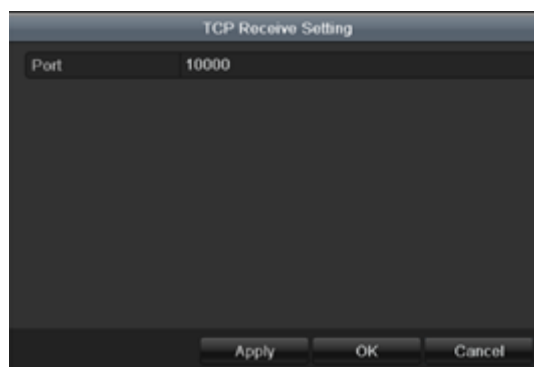

Figure 13.6 TCP Receive port Settings Interface
4. Click the **OK** button to save the settings and go back to the User Management interface. The added new user will be displayed on the list, as shown in Figure 13.6.